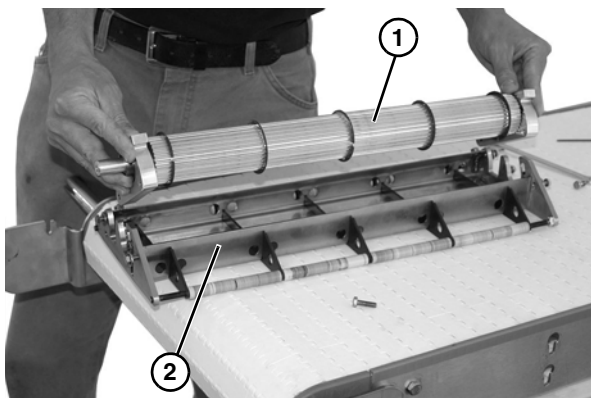

Figure 37
4. Remove shaft assembly (**Figure 37, item 1**) from power transfer frame (**Figure 37, item 2**).